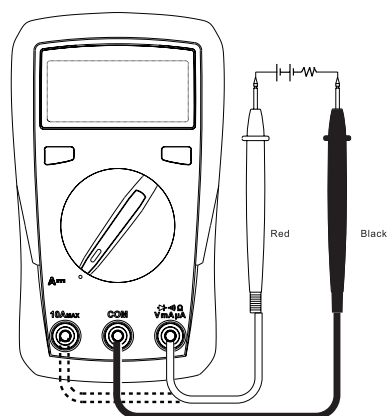

Figure 3
6. DC measurement (see Figure 3)
7. AC measurement (only for 72-13430, see Figure 3)
Please refer to Section 6 “DC measurement (see Figure 3)”